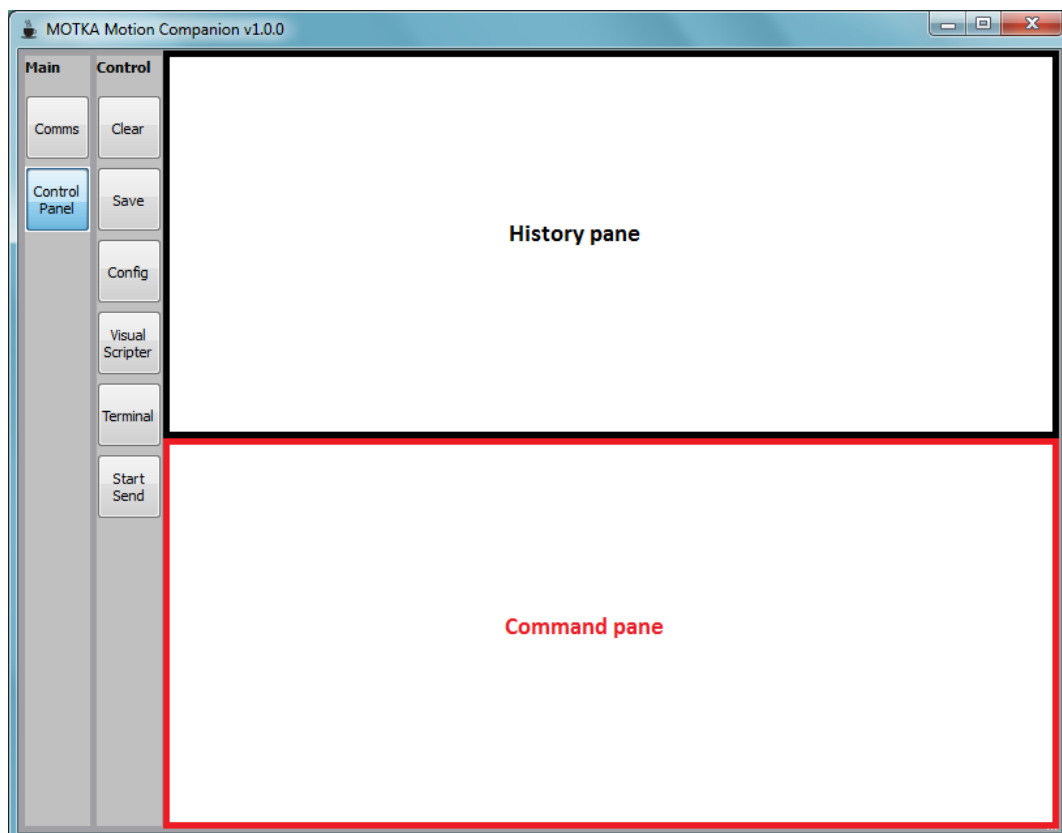
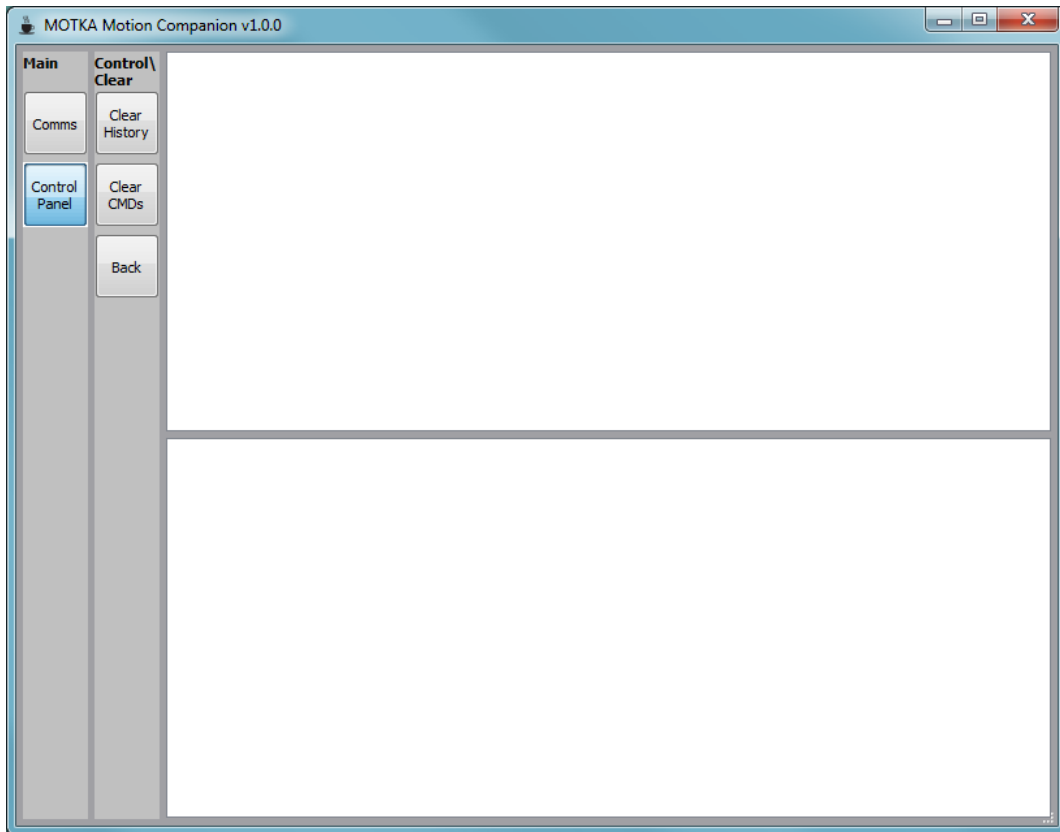
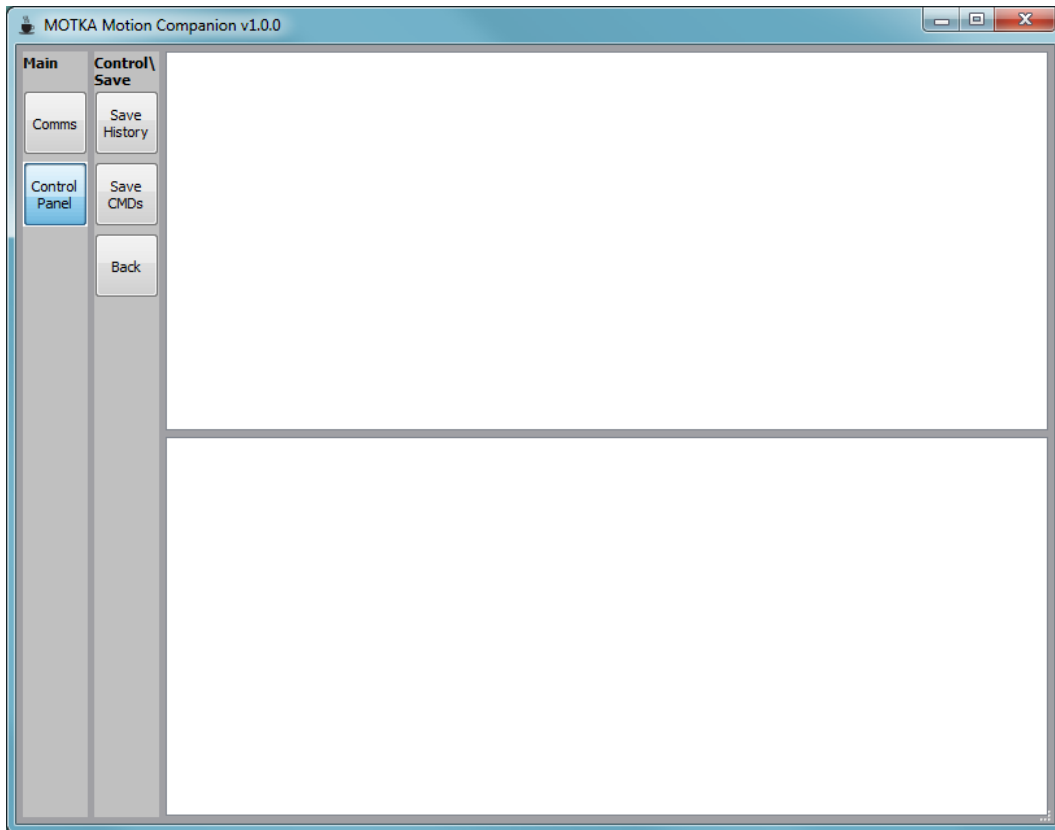

Figure 3: Control panel user interface
Figure 4: Clear panel user interface
Figure 5: Save panel user interface
Clicking on the *Back* button will reveal the *Control Panel* user interface as depicted in Figure 3. To return to this *Config Panel* to change the configurations, select the *Config* button.
We can send commands to a motion controller using the MMC in two ways. The first way is to send one command at a time manually. This can be done using the *Terminal*, where we type in a command, send it, type the next, send it, and so on. We will discuss this in Section 2.3.3. The second way is to write a script and send it. A script is a text collection of valid commands, and it can be created by manually typing into the *Command Pane*, as shown in Figure 3, or with the help of the Visual Scriptor (VS). We will discuss scripting in the next two sections.
We can write a script that contains a list of valid commands (refer to Command Reference complete list of commands) by typing directly into the *Command Pane* as shown in Figure 3. Each command must start with a new line.
We can clear the panes anytime by pressing the *Clear* button as shown in Figure 3 and select which pane, Command or History, to be cleared as shown in Figure 4. Select the *Back* button to return to the earlier screen.
Should we want to save our work, both the *History* and *Commands*, we can select the *Save* button as shown in Figure 3 and select which pane to be saved as shown in Figure 5. We can also load previously saved command script file to the *Command* simply by drag and drop the file onto the *Command*.